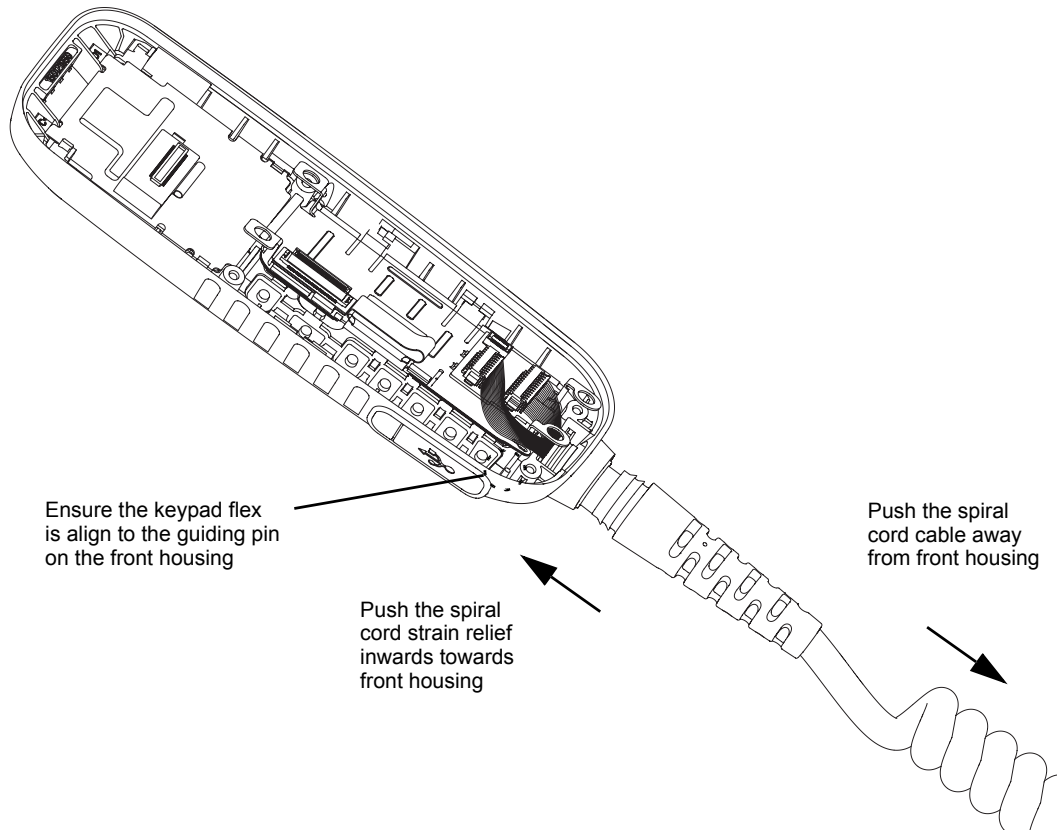

Figure 6-39 Keypad Retainer Assembly
3. Tongue in the two catches and snap the keypad retainer into the Handset front housing. Make sure the keypad flex is aligned to the front housing guiding pin as shown in Figure 6-39.